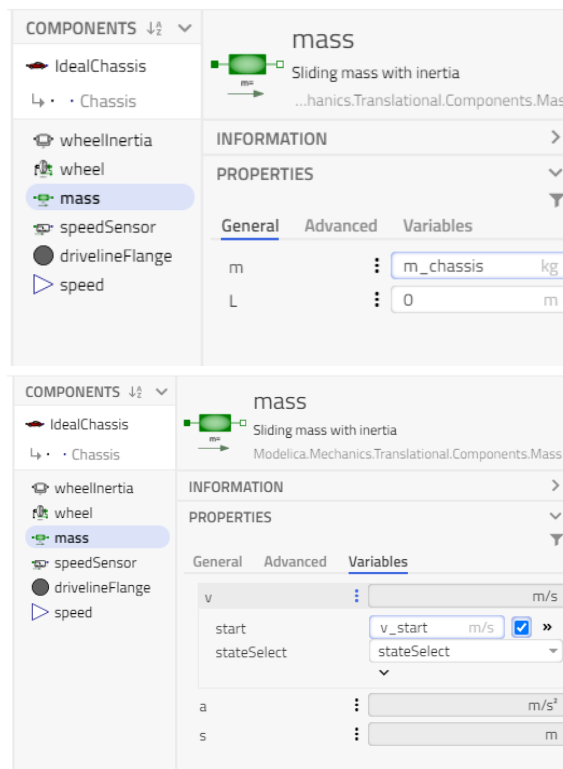

Figure 9 Propagating Chassis parameter
- d. Propagate parameters and set default values for $J_{wheel}=1$, $R_{wheel}=0.3$, $m_{chassis}=1400$ and v_{start} (note especially v_{start} default value was set in the template, see the Figure 9).